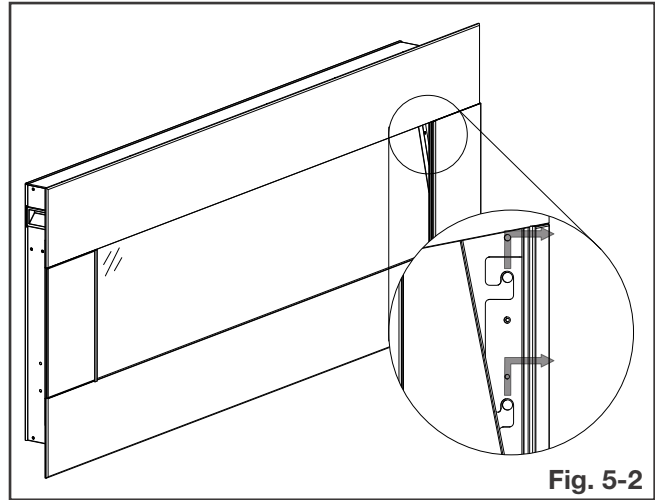

Fig. 5-2
- Lift the front surround up and out from the appliance (Fig. 5-2).